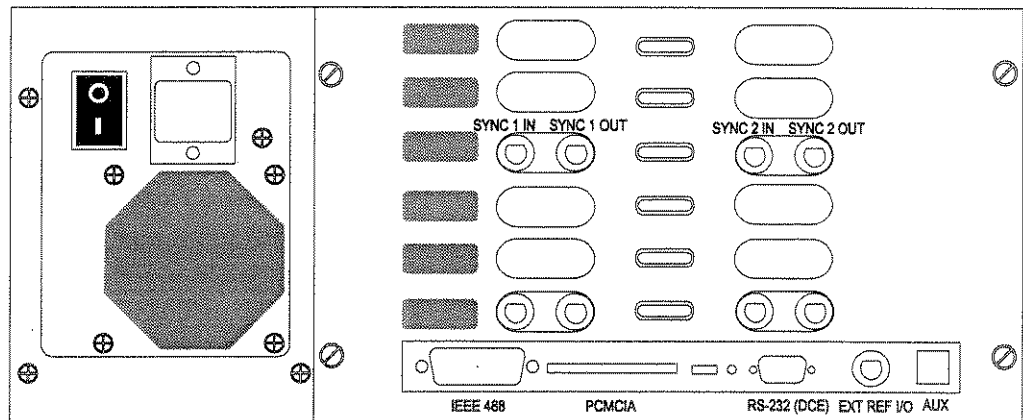

Figure 1-3. Rear Panel of the TAS 4500
Figure 1-3 shows the rear panel of a standard 4500.
The SYNC 1(2) input(output) connectors shown in Figure 1-3 are BNC type connectors. The TTL digital signal on this connector is used to provide synchronization of the digital signal processing between two 4500 units that are configured in a 4 branch diversity test setup.